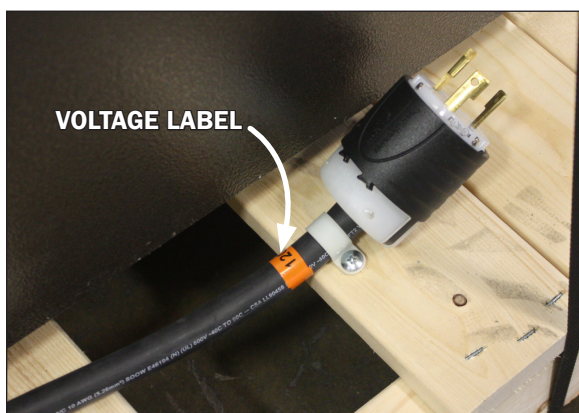

Fig. 9 Main power cord voltage label
Prior to plugging in and starting up the case always check the data tag located on the left end exterior panel or top interior of the case, as well as the voltage label found on the main power cord (Fig. 9) which can be found at the rear base panel. **Note:** **Check that the voltage of the receptacle you are going to use for power and the voltage required for the case match.**
1. After the main power cord (Fig. 9) located at the base panel of the case is plugged in and the power switch (Fig. 11) flipped to ON the case should begin normal operations.